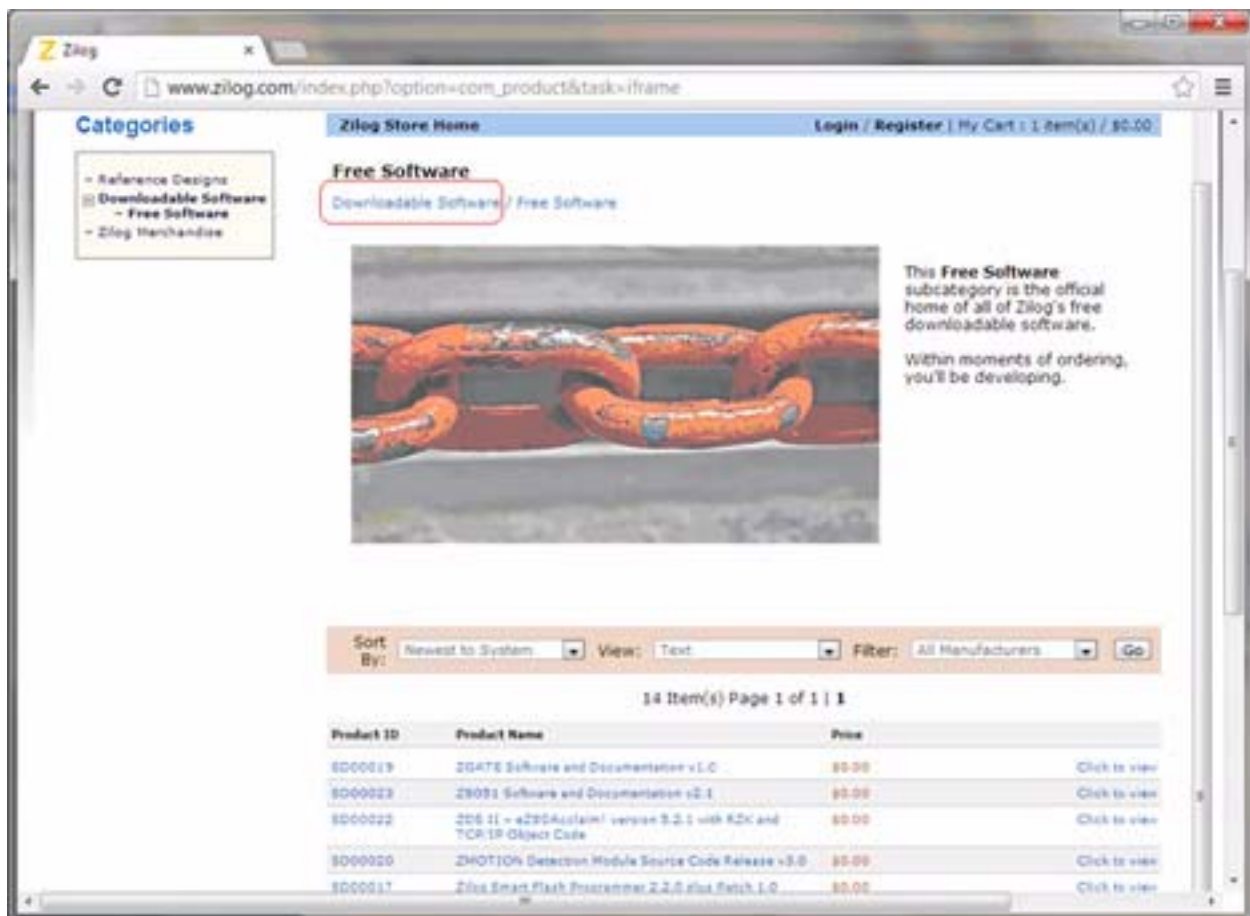

Figure 2. The Downloadable Software category in the Zilog Store
1. Prior to connecting the F6482 Series Development Board to your development PC, download ZDSII for Z8 Encore! v5.2.2 (or later) from the Downloadable Software category in the Zilog Store; see Figure 2.